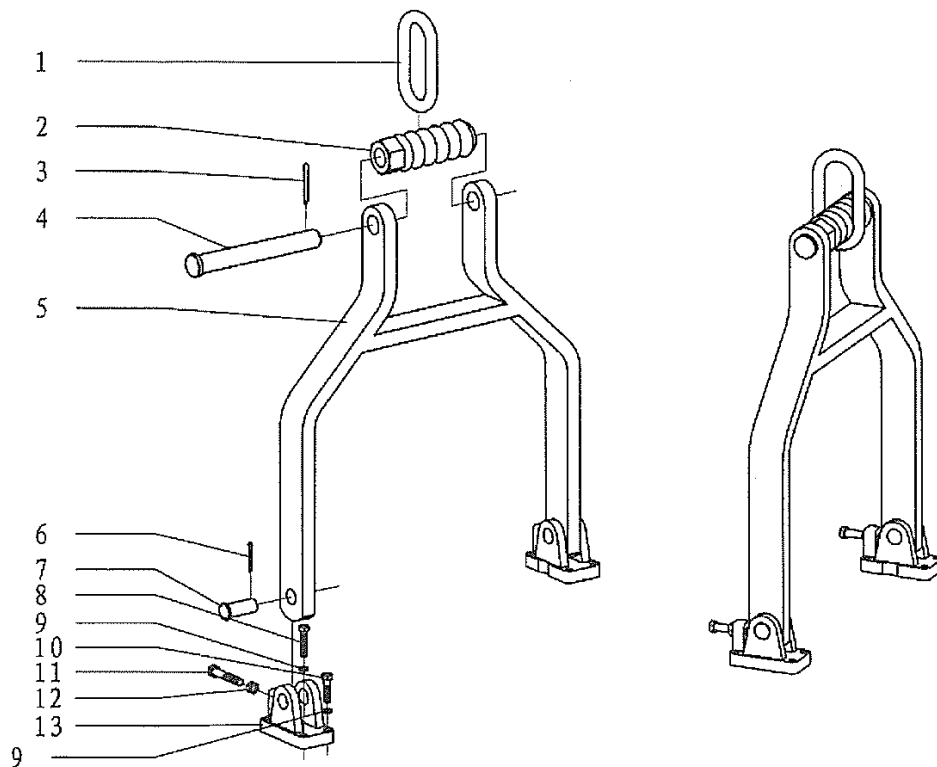

Fig29.
8.18 Suspending rod assembly (Fig29. Table29)